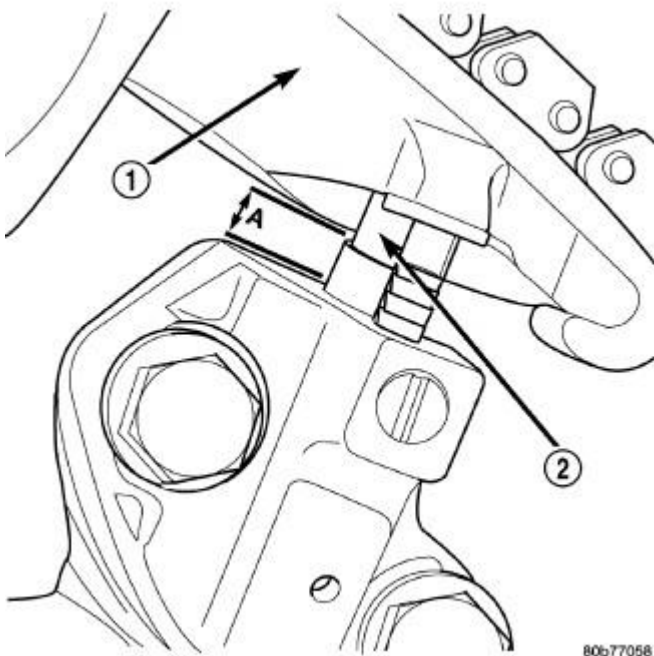

Fig. 157: Measuring Timing Chain Wear
2. To determine if the secondary timing chains are worn, rotate the engine clockwise until maximum tensioner piston (2) extension is obtained. Measure the distance between the secondary timing chain tensioner housing and the step ledge on the piston. Refer to **Fig. 157**. The measurement at point (A) must be less than 15 mm (.5906 inches).